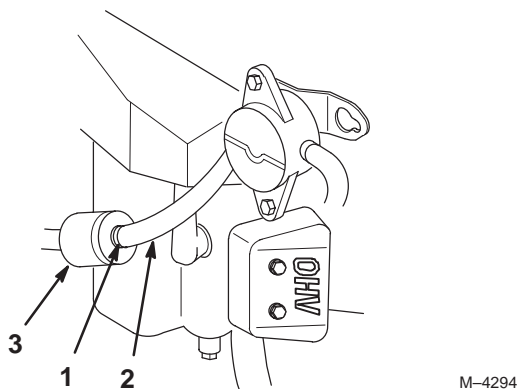

Figure 32
5. Squeeze the ends of the hose clamp together and slide it up the fuel line toward the fuel tank (Fig. 32).
6. Pull the fuel line off the filter (Fig. 32). Open fuel shut-off valve and allow gasoline to drain into an approved gas can.
5. Squeeze the ends of the hose clamps together and slide them away from the filter (Fig. 32).
7. Install a new filter and move the hose clamps close to the filter (Fig. 32).